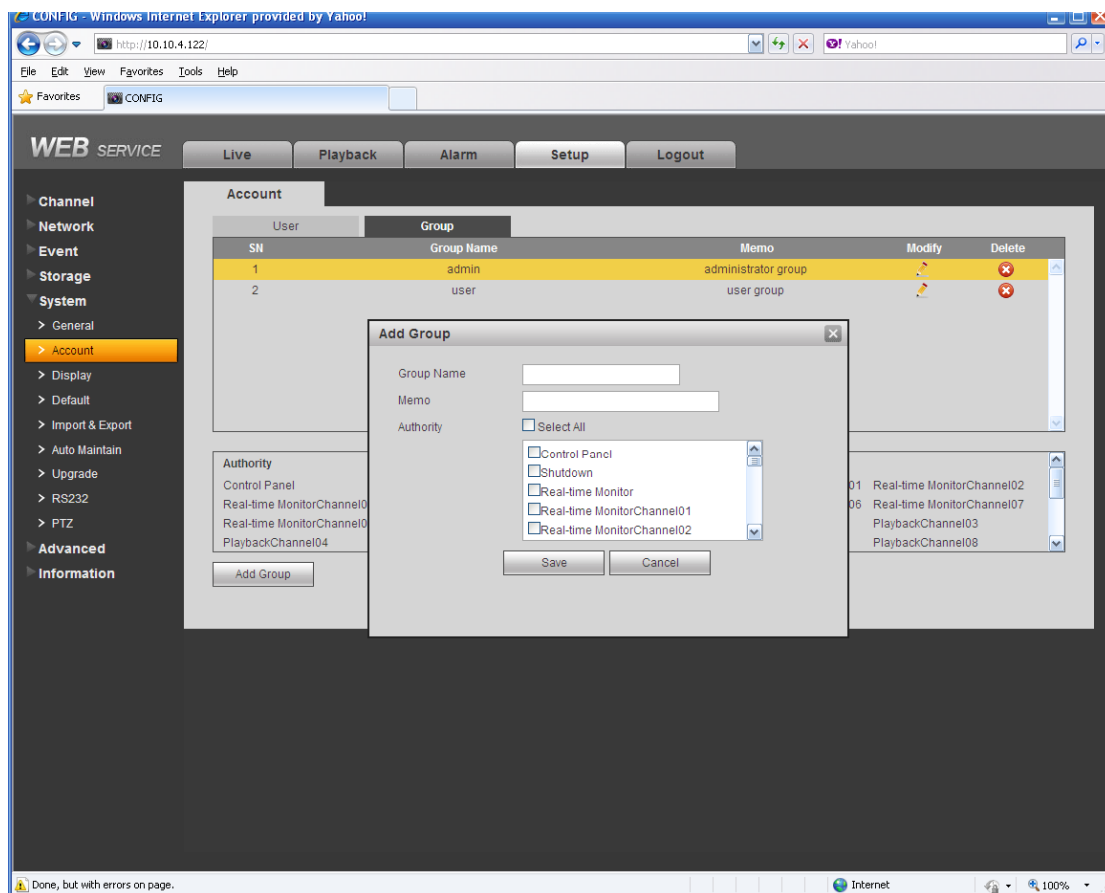

Figure 7-71
**Add group:** It is to add group and set its corresponding rights. See Figure 7-71.